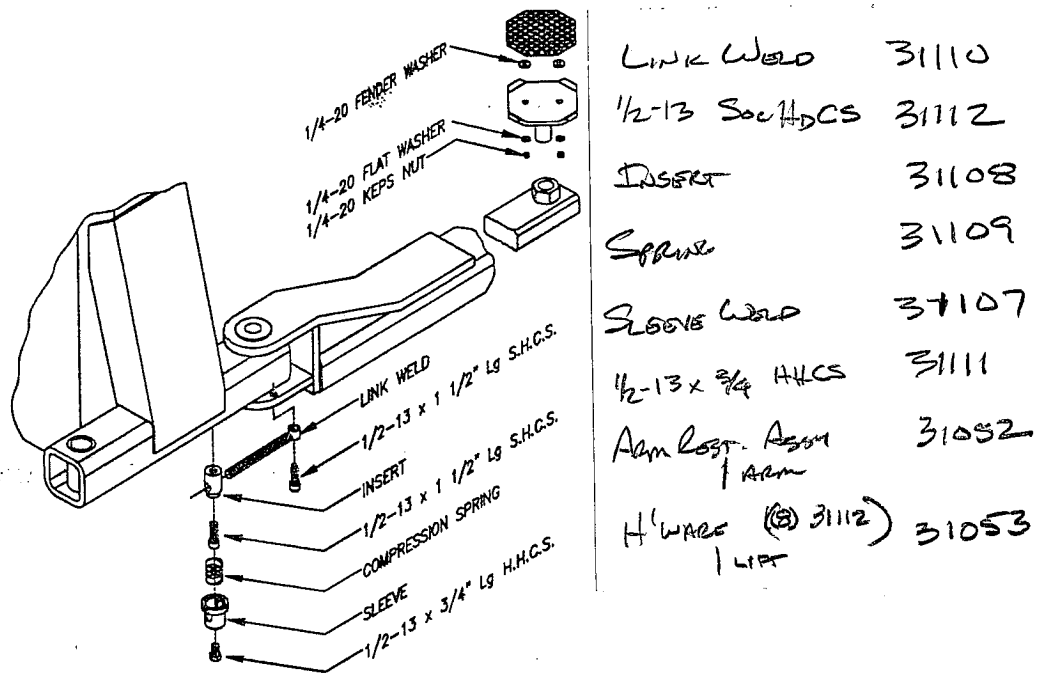

Fig 13
18. Install the arms, rubber inserts, and arm restraints as seen in **Figure 13**. Adjust the arm restraint adjusting bolts so that all four arm restraints are released when the carriages are fully lowered.